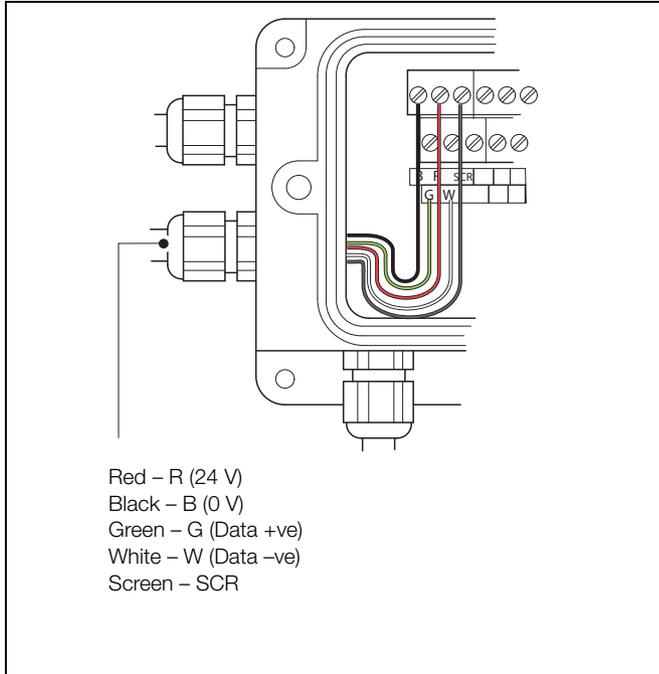

Fig. 3.12 Additional serial cable connections to multiple wet-sections
1. Open the wet-section door by releasing the 2 door locks (A).
2. Remove the 4 screws (B) and associated plastic screw retaining washers (C) holding the wet-section PCB cover in place and remove the cover.
3. Feed the supplied communications cable through the channel in the rear corner of the main case (as fitted cable), then through the cable gland and make the connections shown in Fig. 3.12, page 15.